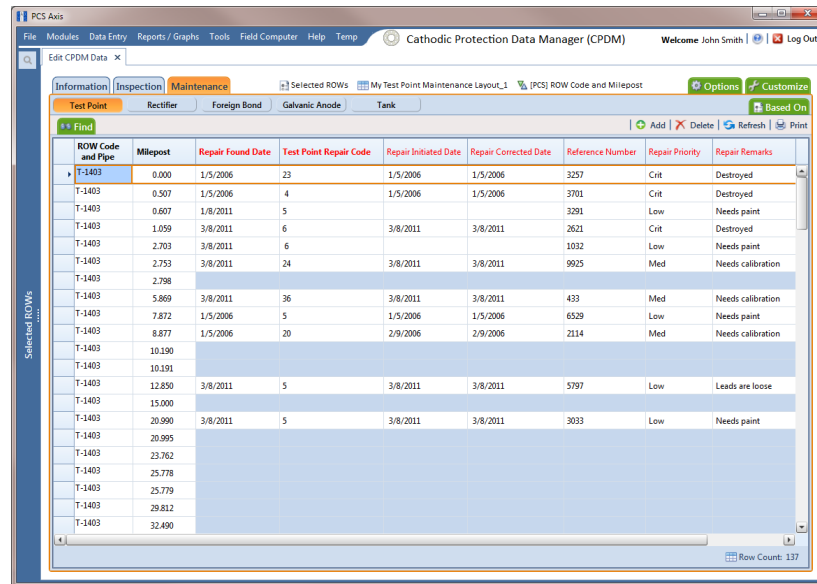

Figure 7-21. Maintenance Grid
- 3 Open the *Edit <module> Data* window. For example, click **Data Entry > Edit CPDM Data** to open the *Edit CPDM Data* window (Figure 7-21).